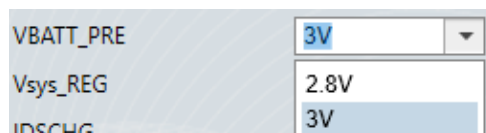

Figure 12: Pre-Charge to Fast Charge Threshold Setting
8. Figure 12 shows the pre-charge to fast charge threshold setting. Set the pre-charge to fast charge threshold voltage to 3V (the range is 2.8V to 3V).